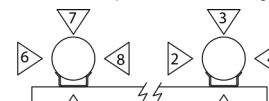

Figure 1: Control Quadrants
Step 8. Select the control mechanism quadrant (see fig. 1): _____